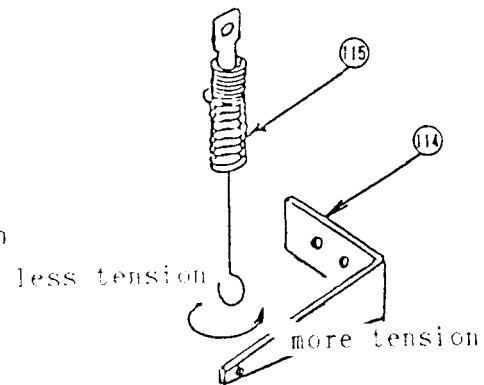

Fig.26
As mentioned in items 1 and 2 above, the torque of the machine itself will become light due to repeated application of oil when machine is used for a long period. In such case, remove auxiliary stop lever spring (115) from bracket (114) and turn spring in the direction shown in Fig.26 to increase the spring tension.